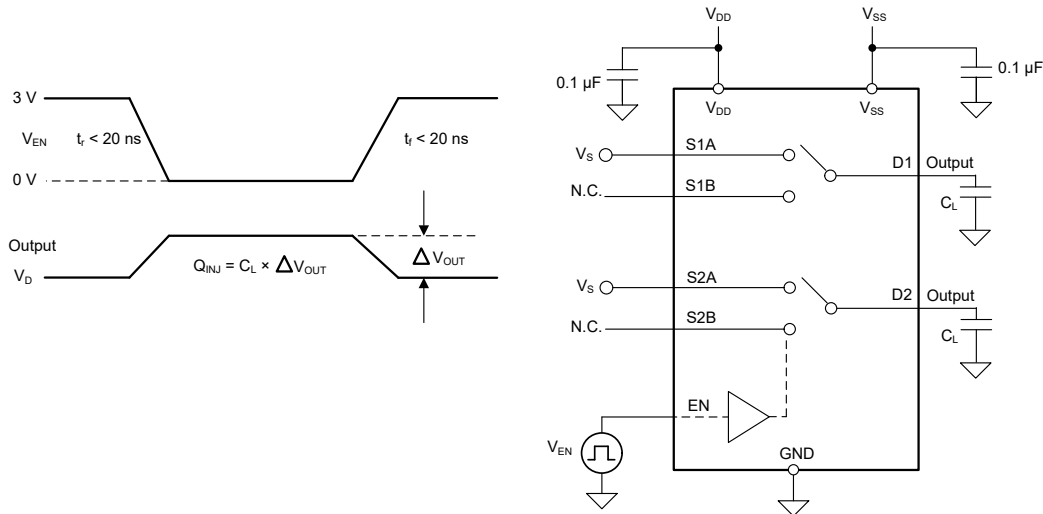

图 6-9. Charge-Injection Measurement Setup
The TMUX7236 has a transmission-gate topology. Any mismatch in capacitance between the NMOS and PMOS transistors results in a charge injected into the drain or source during the falling or rising edge of the gate signal. The amount of charge injected into the source or drain of the device is known as charge injection, and is denoted by the symbol Q_{INJ} . 图 6-9 shows the setup used to measure charge injection from source (S_x) to drain (D).